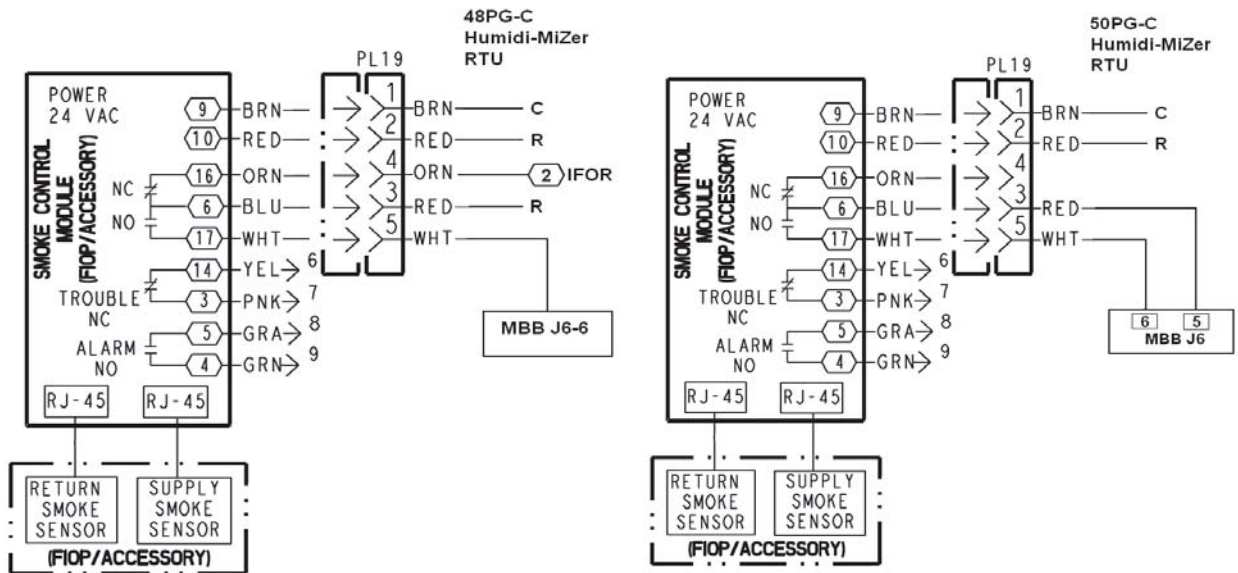

Fig. 8 – 48/50PG Humidi-MiZer™ Smoke Detector Wiring
**NOTE:** This step is not needed with 48/50PG Humidi-MiZer™ units because they have plug 19 harness already installed in the control box. The harness assembly part number 50TG403507 that came with the accessory is not used. Factory installed PL-19 can be located outside the control box by its appropriate label. For Humidi-MiZer smoke detector wiring refer to Fig. 8.